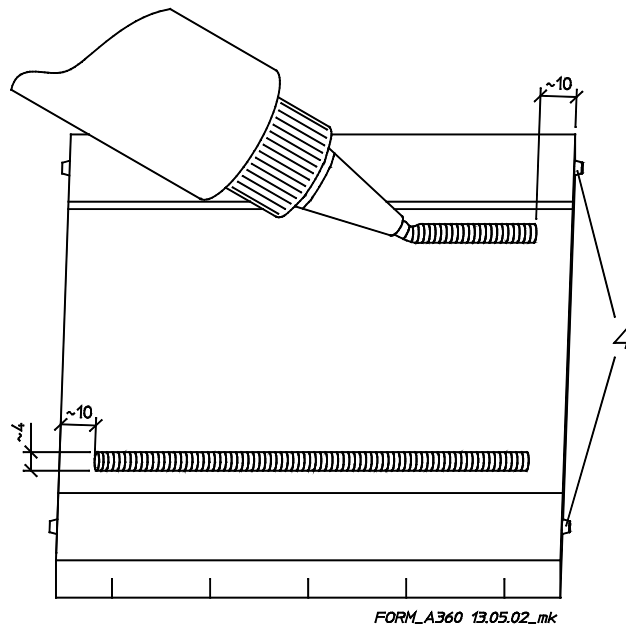

Fig. 1-3
- Apply two lines of silicone (approx. 2 mm high) to the back of the lead-through pad → Fig. 1-3 (page 3).